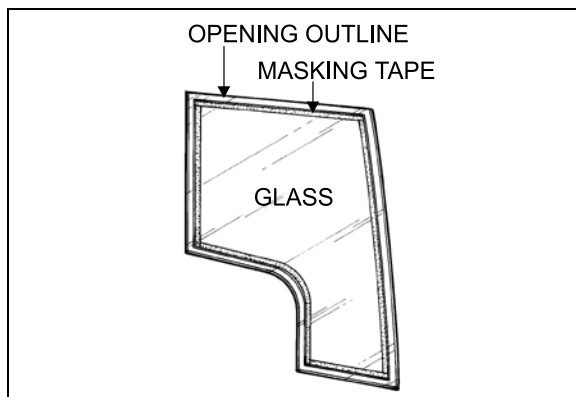

FIGURE 45: ADHESIVE-MOUNTED WINDOW 18080
2. Position the left hand lower corner of the sash over the front cam follower block (Figure 45)